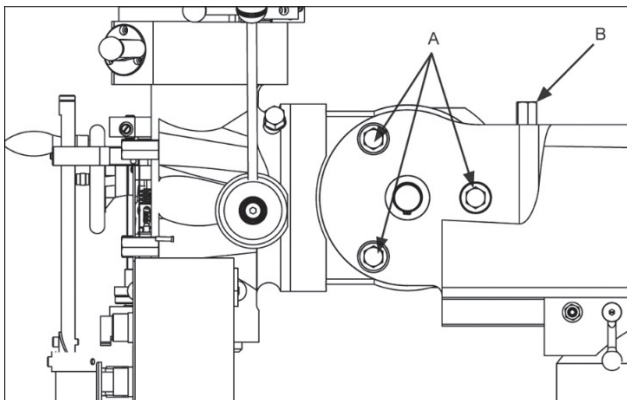

Figure 17
- a. Loosen the three ram adapter clamp bolts on the ram (A, Figure 17). There is no need to loosen the bolts more than 1/2 turn to allow tilting.